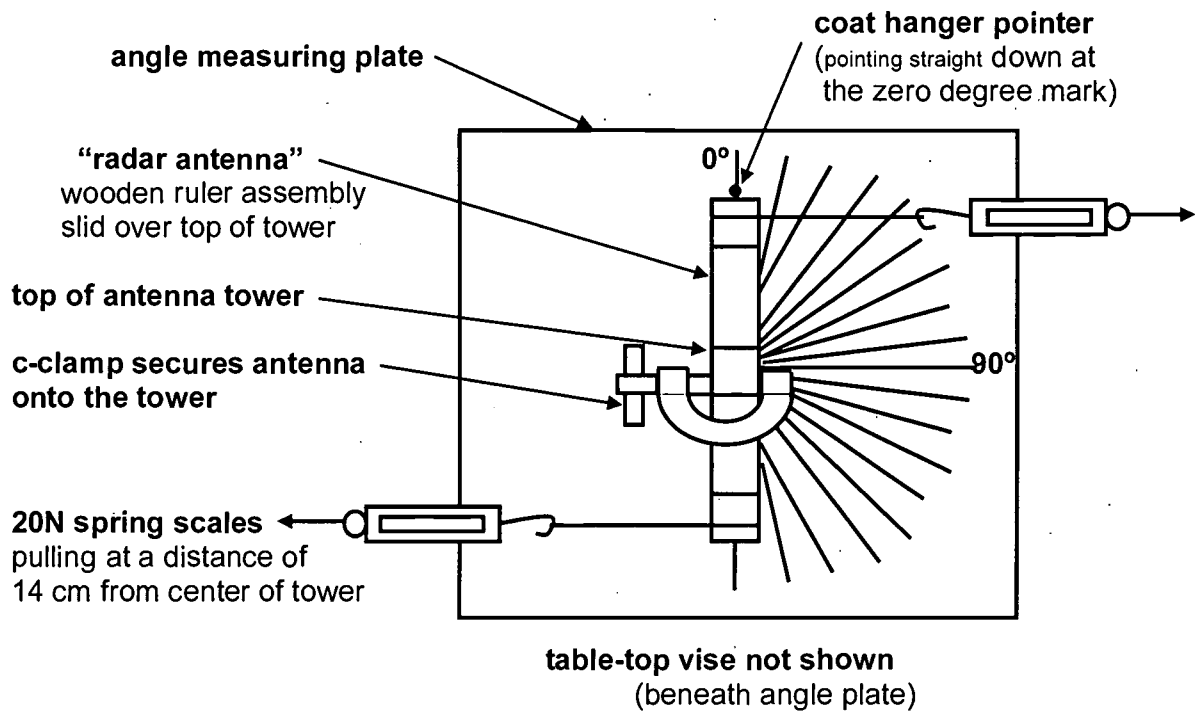

Figure 5: Experimental Setup for Torsion Tests (Top View)
5) Torsion Test Procedure (see Figure 5):